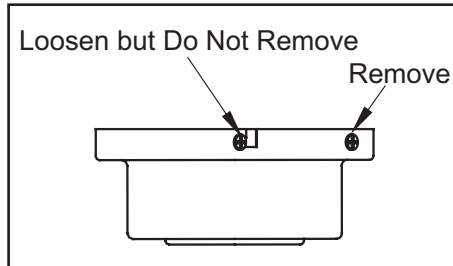

Figure 5
1. Remove the mounting plate from the canopy by loosening the four screws on the top of the canopy. Remove the two non-slotted screws and loosen the slotted screws. This will enable you to remove the mounting plate. (Figure 5)